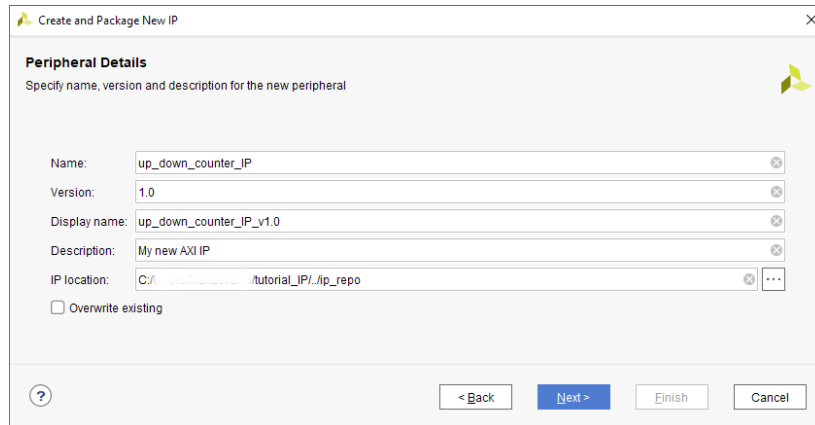

Figure 3
9. Keep all the remaining default settings and click **Next** to continue (Figure 3)
mode - Slave or Master, the read and write data width and the memory size, if selecting a AXI4-Full slave interface, and the number of the AXI registers, only supported for AXI4-Lite slave interfaces. For more about the Advanced eXtensible Interface (AXI) check the AXI Reference Guide, Vivado Design Suite, UG1037. It is also possible to enable interrupt support and to add other user-defined pins. At the bottom left corner of the window a  signal enables the access to a Quick Help with a brief explanation of the configuration options. (Figure 3)